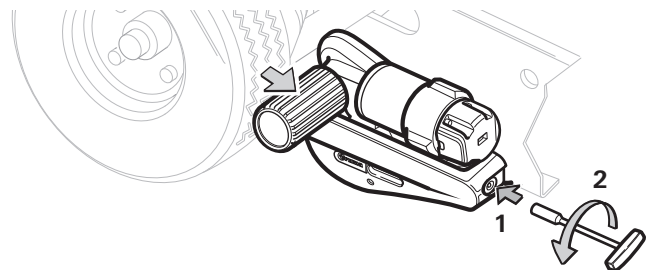

Figure 8
- Insert the socket spanner (size 7 mm) in the opening (Figure 8 - 1) and turn it in an anti-clockwise direction (Figure 8 - 2) until the Mover is completely disengaged.